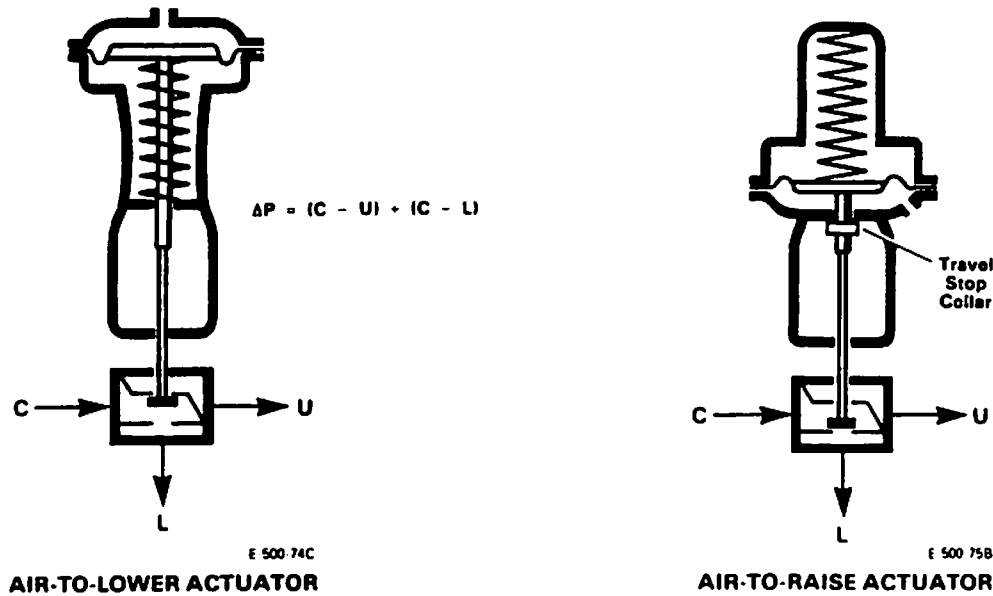

Figure 26. Two Position Diverting Valve
4.6.2 Actuator with Two Position Diverting Valve, Figure 26.